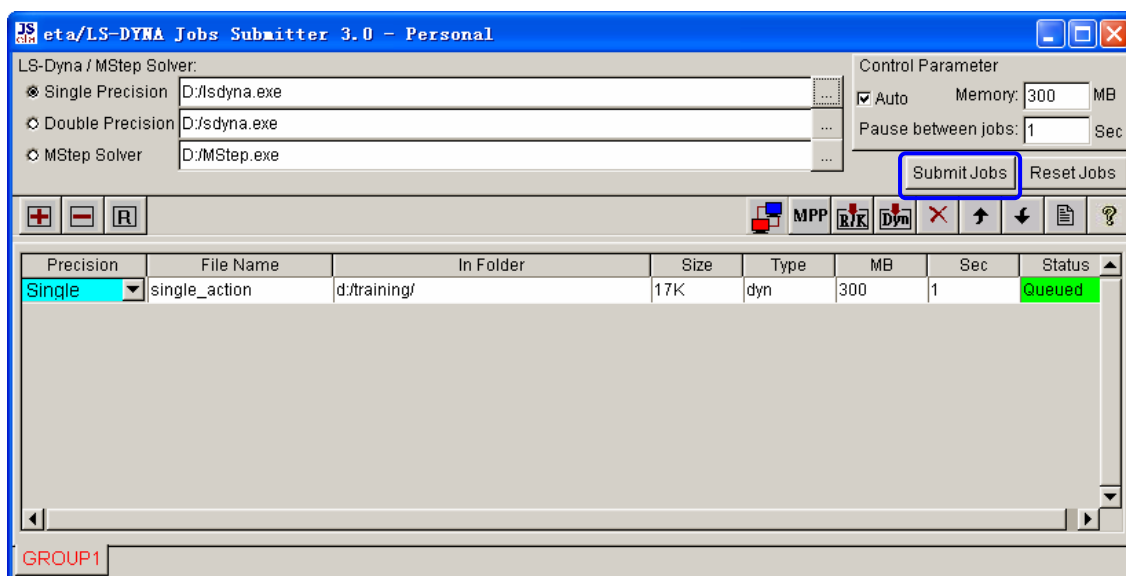

Figure 1.41 Submit job interface
3. Click **Submit** button from the SUBMIT JOB dialog box to display the Job Submitter interface illustrated in Figure 1.41.
4. Click **Submit Jobs** button, as shown in Figure 1.41 to activate the LS-DYNA solver for running the stamping simulation. The LS-DYNA window illustrated in Figure 1.42 is displayed and the simulation is in progress.